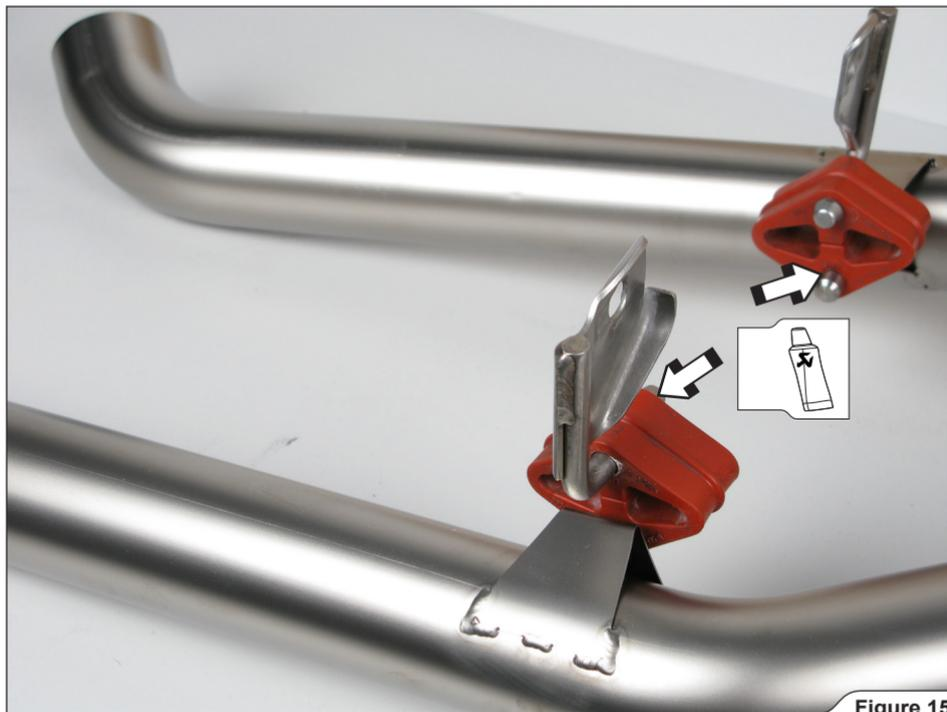

Figure 15
3. **For Evolution:** attach the stock rubber brackets and additional metal clamps to Akrapovič middle pipes as shown (Figure 15, 16).